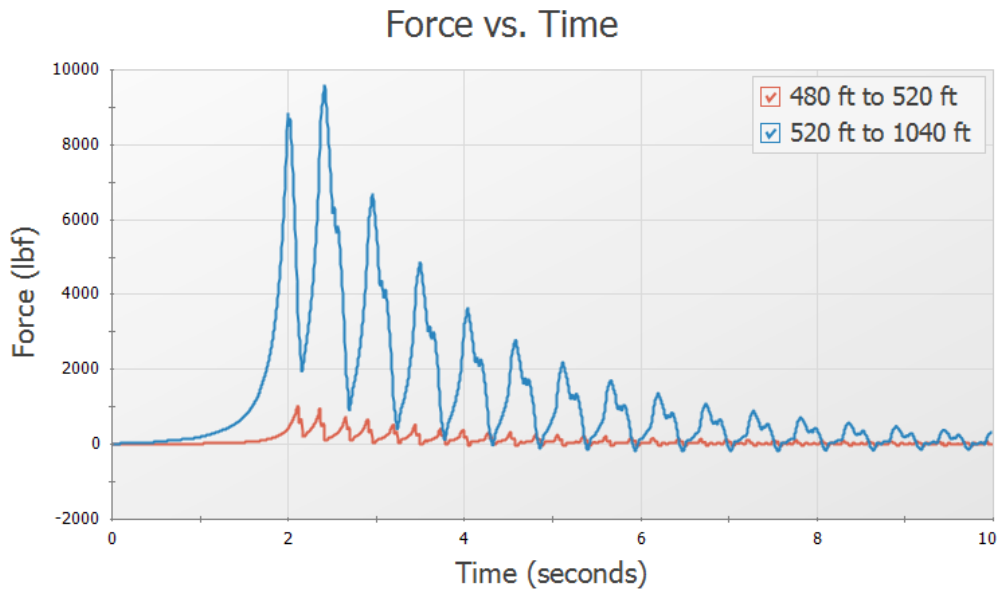

Figure 5.4 Force vs. Time for both force sets
- **Click Generate**, and the following force vs time graph is displayed (Figure 5.4).
Some traditional methods of analyzing force sets will not have this same result, since they do not include the effects of friction or momentum in their force balances. If the graph from Figure 5.4 was created with friction and momentum ignored, then the steady-state values would be calculated as approximately -1,270 lbf and -2,700 lbf. Due to this effect, AFT Impulse will always include both friction and momentum when graphing force sets.